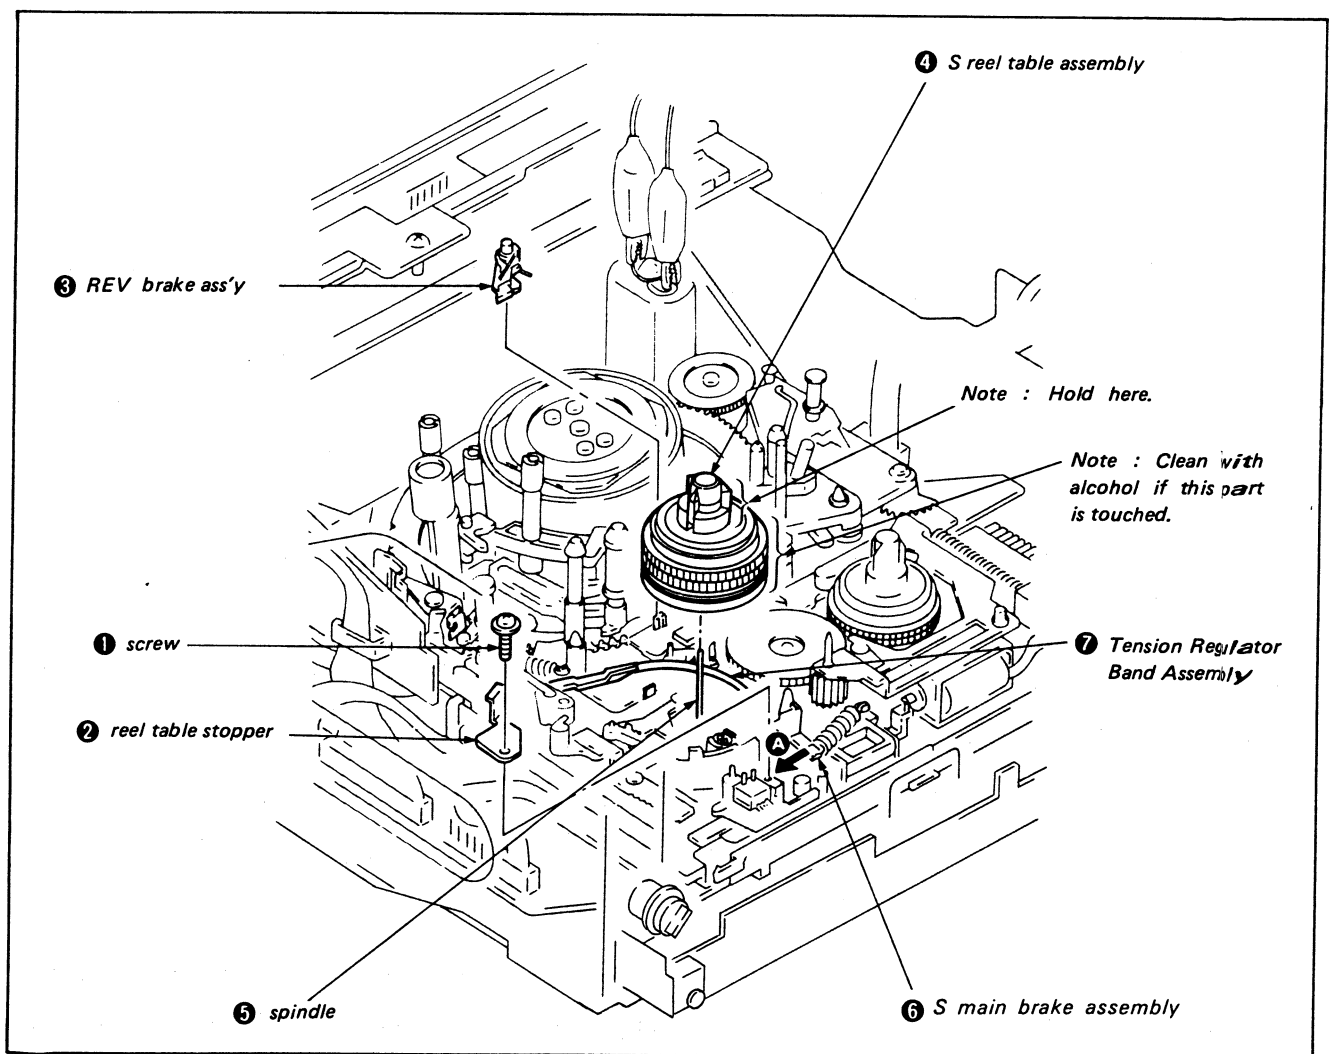
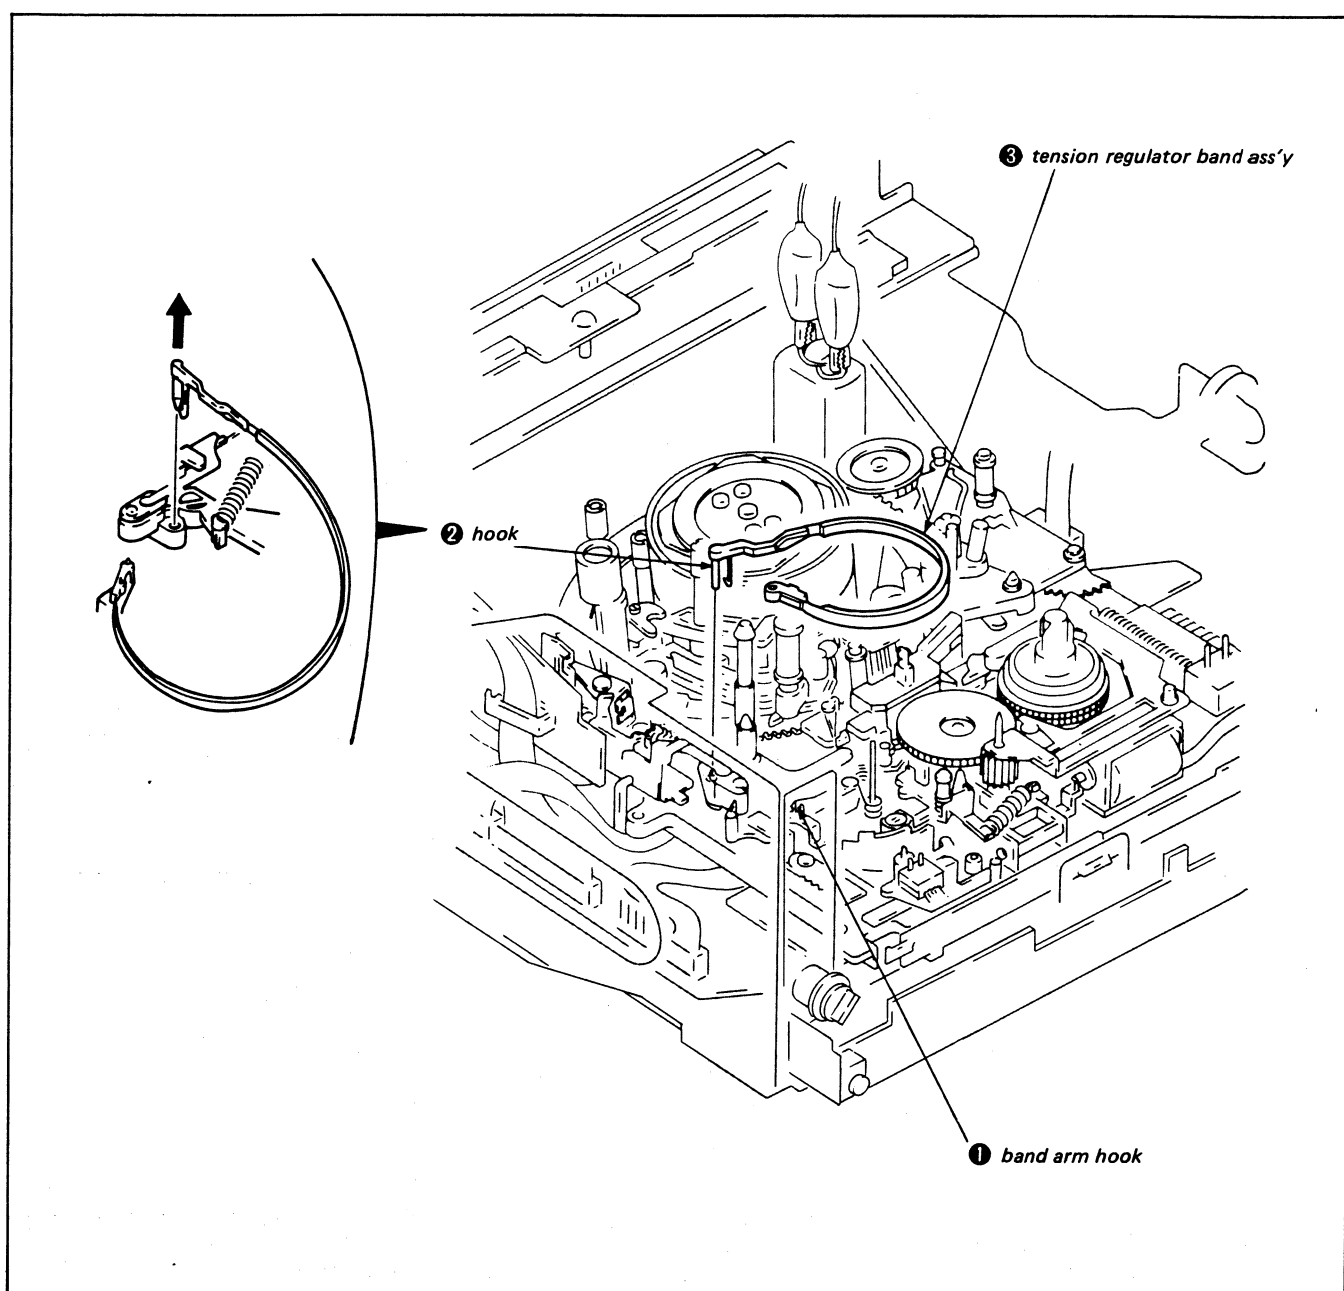

Fig. 3-1.
Fig. 3-5.
- 3) Remove screw ① and reel table stopper ②.
- 4) Remove the REV brake assembly ③.
- 5) Remove the S reel table assembly ④. (Fig. 3-1)
(See Fig. 3-1)
- 1) Place a half drop of oil on the shaft ⑤ upper surface.
- 2) Move the S main brake assembly ⑥ in the direction of arrow **A**.
- 3) Mount the S reel table assembly ④, being careful not to hit the tension regulator band assembly ⑦.
- 4) Mount the REV brake assembly ③.
- 5) Mount the reel table stopper ② and tighten with screw ①. (See Fig. 3-1)
- 1) Remove the S reel table assembly according to item 3-1, 1. Removal. (See Fig. 3-1)
- 2) Remove the band arm hook ①.
- 3) Remove hook ② and the tension regulator band assembly ③. (See Fig. 3-5)
- 1) Mount the tension regulator band assembly ③. (Do not touch the band or change its shape.)
- 2) Fit on the band arm hook ①. (Fig. 3-5)
- 3) Mount the S reel table assembly according to 3-1, 2. Mounting. (See Fig. 3-1)